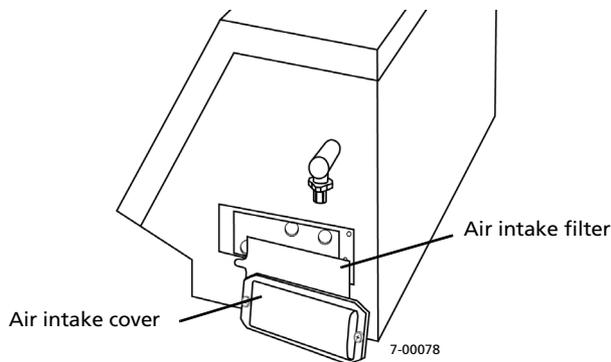

Figure A-3. Air intake filter
1. Turn the two captive thumbscrews to remove the air intake cover (see Figure A-3).